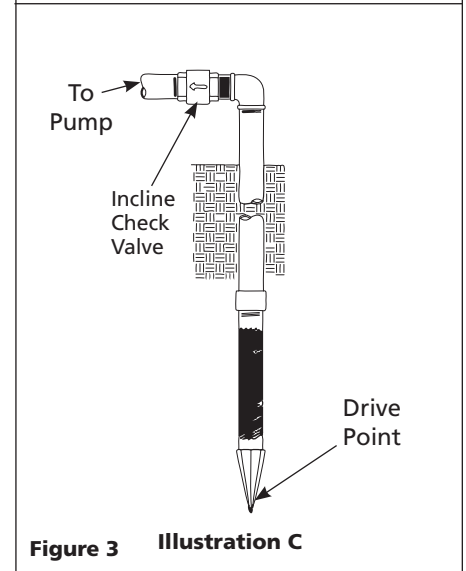

Figure 3 Illustration C
A shallow well jet assembly can be used with the deep well pump when the pump is located 25 feet vertically of the water level. Shallow well installations have only one pipe between the pump and water supply (Figure 3).
1. Install a foot valve on the first section of pipe (Figure 3, Illustration A).
**NOTE:** A packer type foot valve can be installed in the well (Figure 3, Illustration B). This type of foot valve allows the well to be filled with water when priming and makes the inlet pipe much easier to test for leaks. Follow the manufacturer's instructions when installing the packer type foot valve.
As an alternative, an in-line check valve can be used with a driven well (Figure 3, Illustration C). The pipe between the check valve and the water level will always be under a vacuum.